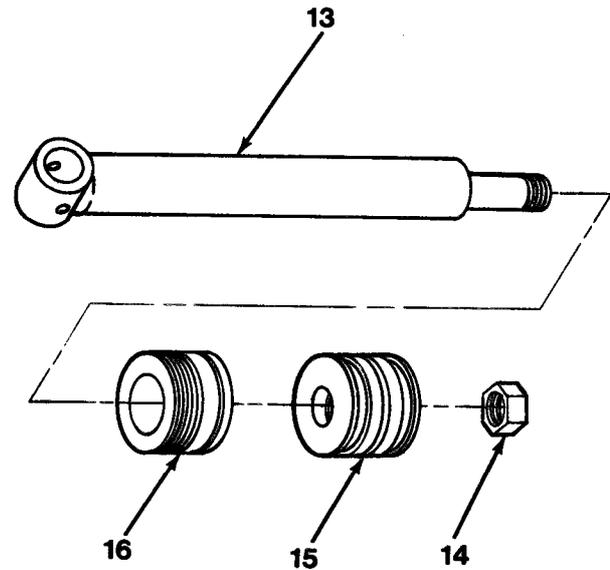

Figure 13-5
3. Remove retaining nut (14, Figure 13-5).
4. Remove piston (15) and gland (16) from rod (13).